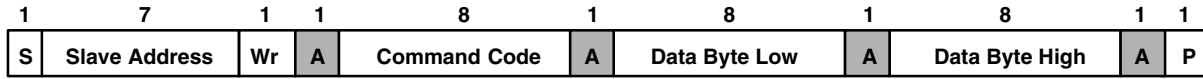
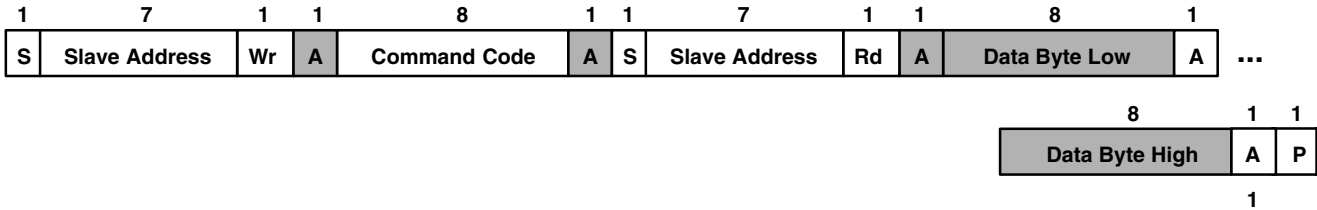

Figure 18. SMBus Write Word Protocol
Figure 19. SMBus Read Word Protocol
- NOTES: 1. An I2C block transaction will continue until the Master sends a stop condition. See Figure 18 and Figure 19. Unlike the I2C protocol, the TCS3404/14 SMBus read/write protocol requires a Byte Count. All eight ADC Channel Data Registers (10h through 17h) can be read simultaneously in a single SMBus transaction. This is the only 64-bit data block supported by the TCS3404 SMBus protocol. The TRANSACTION field must be set to 10, and a read condition should be initiated with a COMMAND CODE of CFh. By using a COMMAND CODE of CFh during an SMBus Block Read Protocol, the TCS3404 device will automatically insert the appropriate Byte Count (Byte Count = 8) as illustrated in Figure 18. A write condition should not be used in conjunction with the 0Fh register.